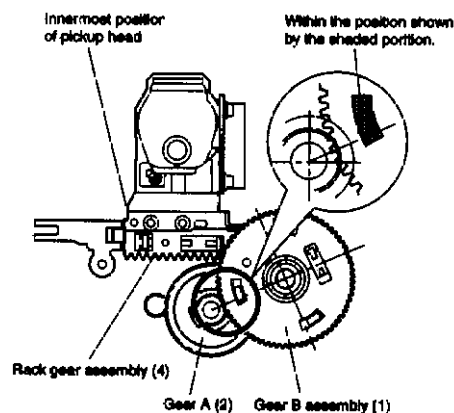

Fig. 2-1-22
2. Mount the gear B assembly (1) by pushing the pickup head (5) to the disc motor side (arrow A direction) and shifting the upper gear of the rack gear assembly (4) in the arrow B direction. (Refer to Fig.2-1-22)